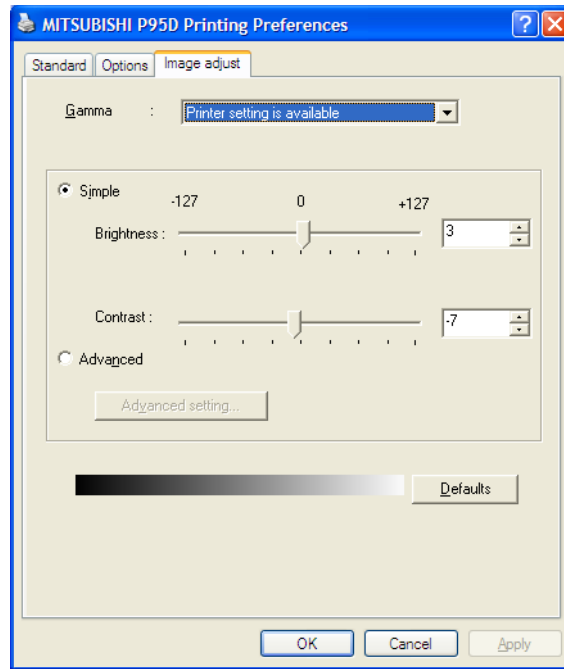

Figure 3-52 Image Adjust page
- 4.) Select the IMAGE ADJUST page (see: Figure 3-52 below) and select: